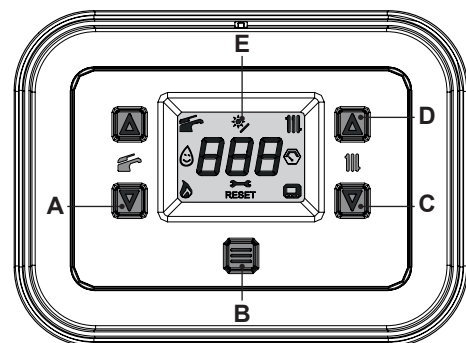
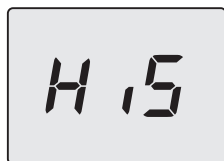
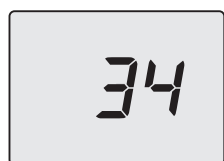

Figure 9.9
Figure 9.10
Figure 9.12
time the 2 keys "A" and "C" (Figure 9.9) and hold in for 5 second until the display shows Figure 9.10.
- 5 Scroll the various menus using keys "A" or "C" (Figure 9.9) until **CAF** appears on the LCD display (Figure 9.11).
- 6 Press the key "B" (Figure 9.9) until the **StF** (Start Full), alternating with **34** (calibration value), appears on the LCD display (Figure 9.12).
- press the "A" and "C" keys simultaneously for 5 seconds (Figure 9.9) (return to previous level).